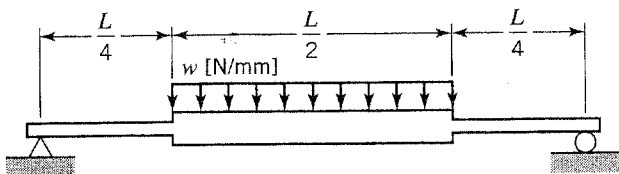

FIGURE P5.26
5.26. The beam in Figure P5.26 has its central half enlarged so that the moment of inertia I is twice the value for each end section. Determine the deflection at the center of the beam.